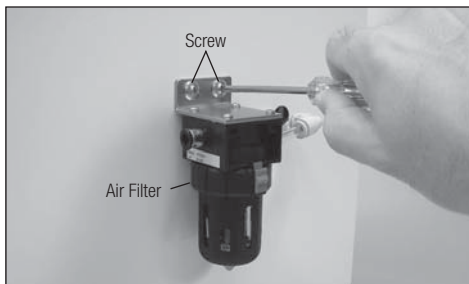

Fig. 26
- 2) After removing the two screws, remove the Air Filter. (Fig. 26)